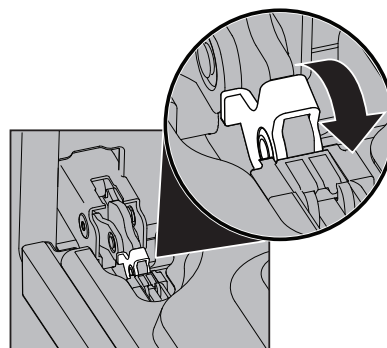

Figure 25: Door hinge lock
2. Pull up the lock located on each hinge support toward front of the oven until the lock stops. You may have to apply a little upward pressure on the lock to pull it up (Figure 25).
4. Push the door hinge locks up toward and into the oven frame on both left and right oven door hinges to the locked position (Figure 25).